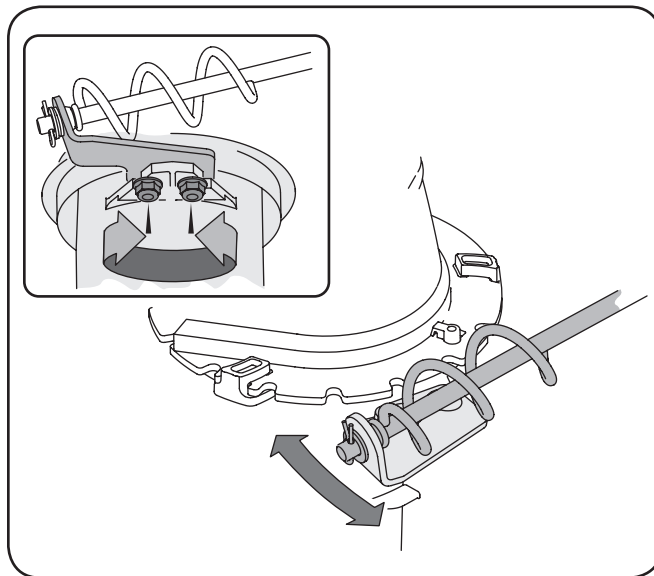

Figure 6-9
1. Loosen the two nuts which secure the chute bracket and reposition it slightly. See Figure 6-9.